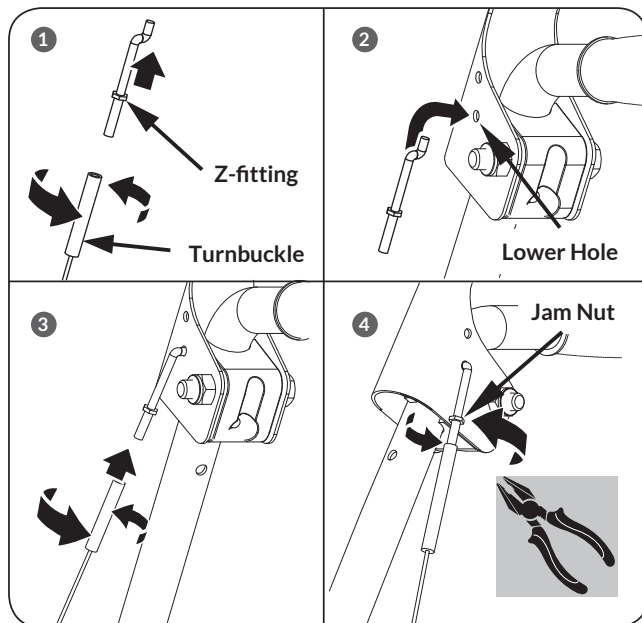

Figure 7b
2. Disconnect the Z-fittings from the turnbuckles and hook them into the lower holes in the clutch levers. Thread the turnbuckles without turning the cables onto Z-fittings until there is no slack in the cables. Do not overtighten the cables. Hold the flats on the turnbuckles with pliers and tighten the jam nuts against the turnbuckles. (See **Figure 7b** steps 1 – 4)